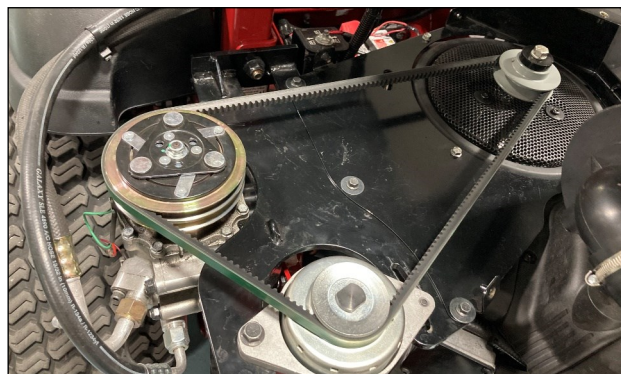

Fig. 7.3 (Install V-belt)
- 7.3 See fig. 7.3. Place the V-belt from the hardware kit over the upper groove of the compressor pulley, over the dynamo pulley and over the new pulley on the engine crankshaft. Rotate the dynamo clockwise until the V-belt is tight, then tighten the left dynamo bolt snug.